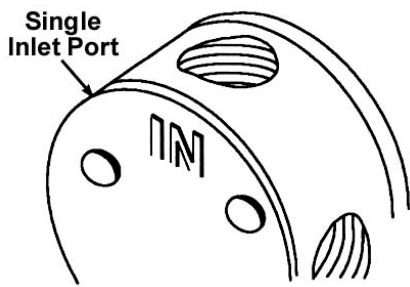

Figure 2
2. On the bottom of the large end of the regulator, the stamped “**IN**” identifies the single inlet port (Figure 2). Insert and tighten the fuel line inlet fitting removed from the fuel solenoid (bushings required) into this port and carefully tighten.